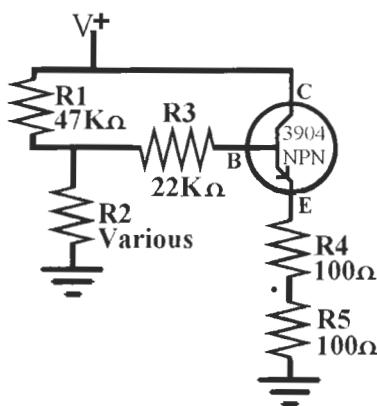
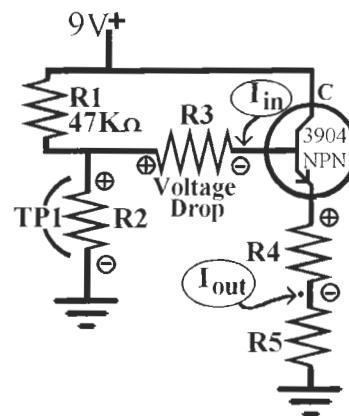

Figure L47-1
Figure L47-2
Set up a modified version of the night light circuit. The schematic is in Figure L47-1 shows a few changes needed to calculate the gain of the NPN 3904 transistor.
4. In Figure L47-2, R4 and R5 make a voltage divider. Measuring the voltage drop across R4 makes it an easy task to calculate the current available at the emitter (output).
6. Now, using the schematic in Figure L47-2, use the values shown for R2. R2 is the only resistor that changes values. R3 keeps the $22 \text{ k}\Omega$ value shown in Figure L47-1 (see Table L47-3).